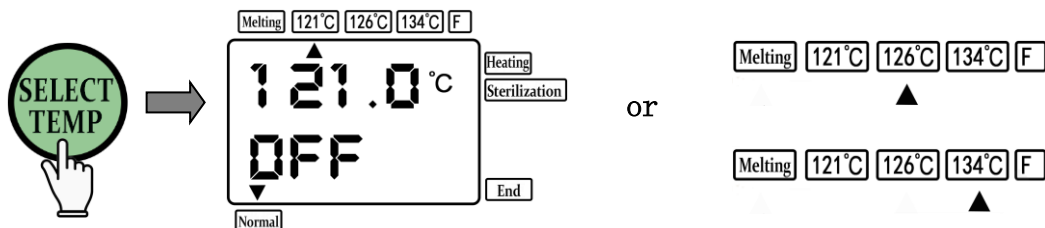

Fig. 10
Open the water filling valve on the left door panel (Fig.8), and remove the top lid of the water filling port. Then add pure water into the water filling port (Fig.9) to make the water level at the running water level (Fig.10). After close the water filling valve, this process finishes.
① Set the sterilization temperature: Select the sterilization cycle according to the sterilization. This product presets three one-key operation modes of "121° C", "126° C", and "134° C". Press "Temperature Selection" key to select the desired One-key temperature (**Fig.10**). **Note: In the one-key mode, the sterilization temperature has a corresponding sterilization default time, including 121° C-20min, 126° C-15min, and 134° C-20min.** Regarding the melting function, please refer to Chapter 7 "Instructions of Control Panel".